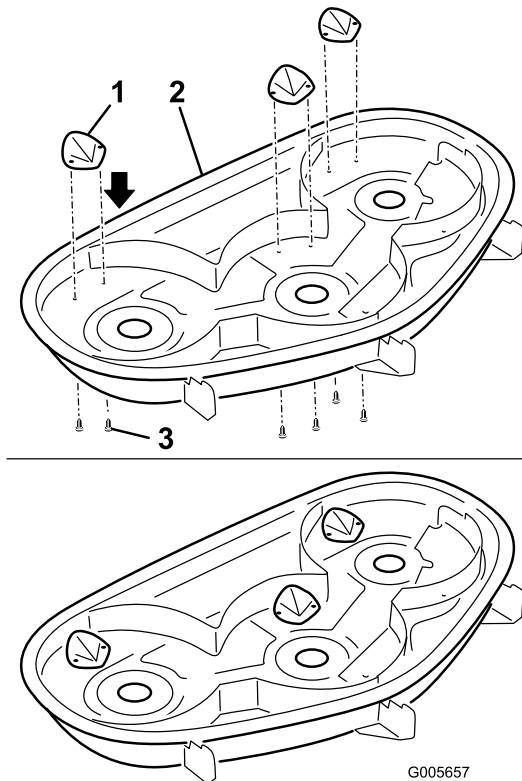

Figure 5
1. Align the three kicker plates with holes toward the top of the deck (Figure 5). The long slope of the kickers must be face inward.
3. Secure the plates to the deck using 6 Phillips head screws (#8 x 5/8 inch). The screws come up through the top of the mower and into the plate (Figure 5).